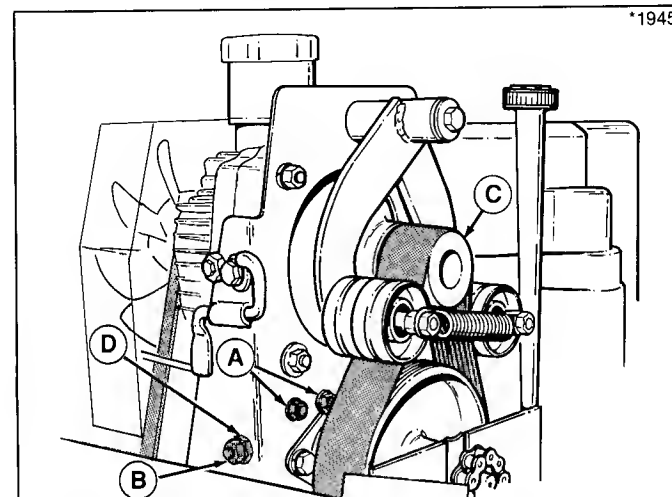

Figure 41. Neutral Adjustment
3. Loosen the two capscrews (A, figure 41).